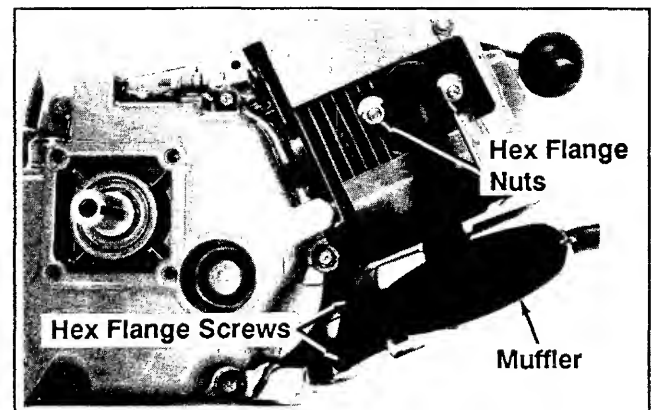

Figure 9-9. Removing Muffler.
1. Remove hex. flange nuts from exhaust studs and hex. flange screws from muffler bracket. See Figure 9-9.